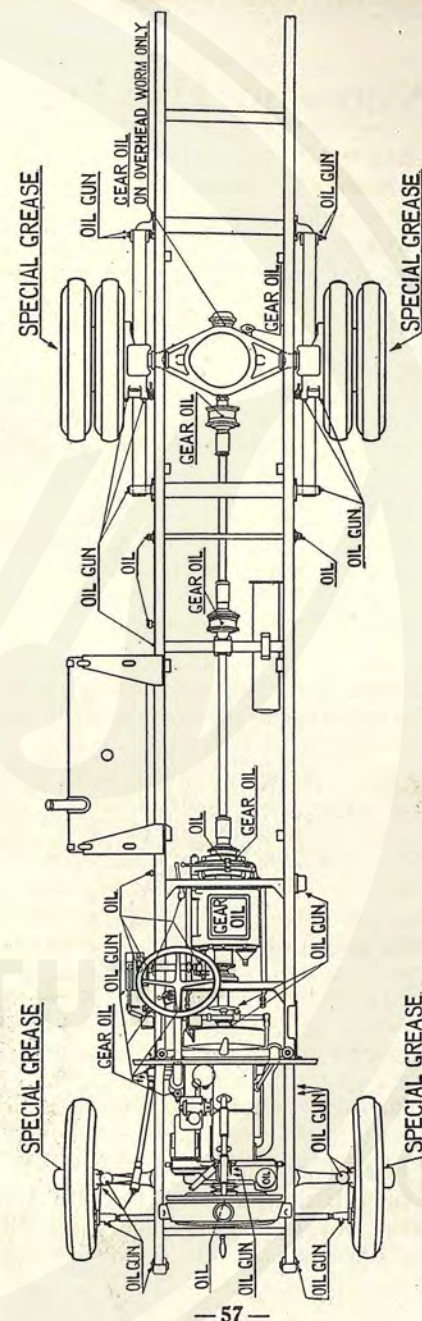

Fig. 20—Chart Showing Position of Oil Cups, Nipples, etc.
**Lubrication Summary.**—The mileages at which replenishments are necessary are summarised in the following table which should be used in conjunction with the lubrication chart Fig. 20.